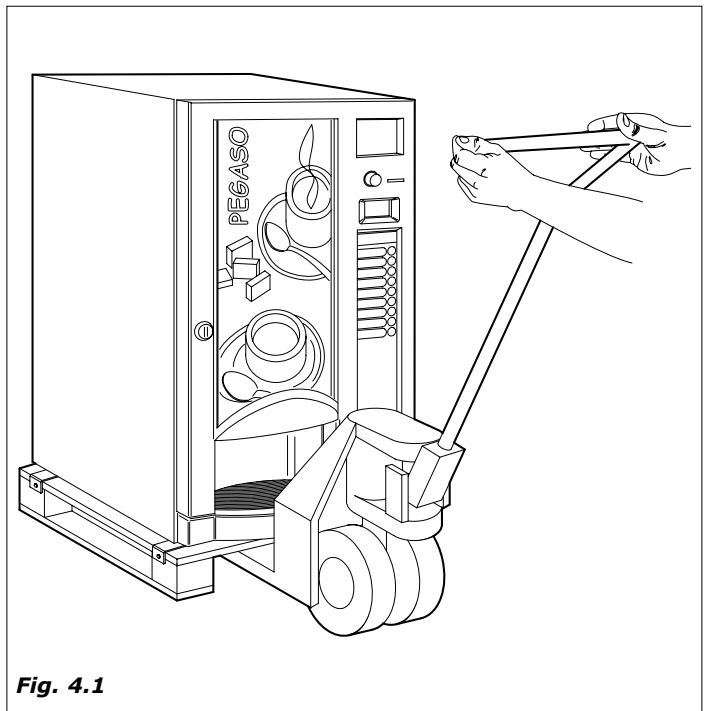

Fig. 4.1
4.1 Moving and transport (Fig.4.1)